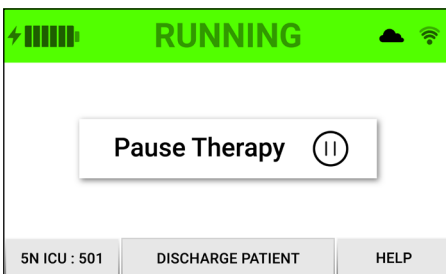
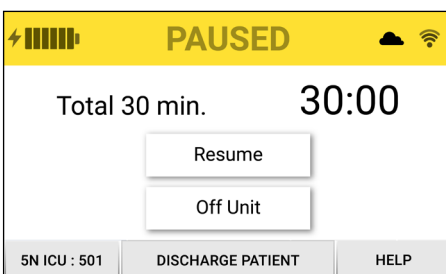

Figure 5. Running screen
Figure 6. Paused screen
1. To stop therapy at the end of patient use, press 'Discharge Patient'; at the bottom of the running (Fig. 5) or paused screens. (Fig. 6)